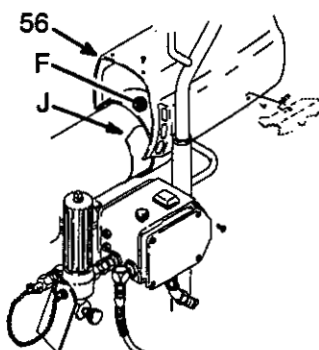

Fig. 37
1. Remove the motor cover (14) and both inspection covers and gaskets (A). See Fig. 37.